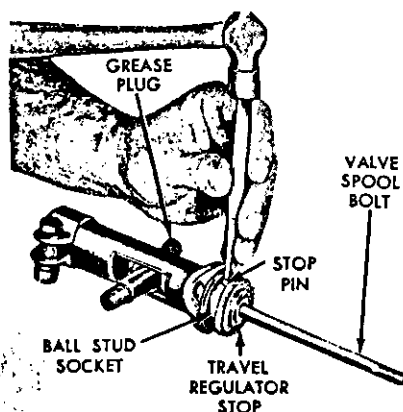

FIG. 39—Removing Stop Pin—Typical
6. Loosen the stop just enough to align the nearest hole in the stop with slot in the ball stud socket, and install the stop pin in the ball stud socket, travel regulator stop, and valve spool bolt (Fig. 39).